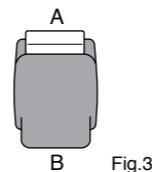

Fig.3
The DuoBeat Beater features a Felt Surface (A) for a full, warm sound and a Plastic Surface (B) for a sharper, punchier sound. Use the side that best suits your playing style (Fig.3).